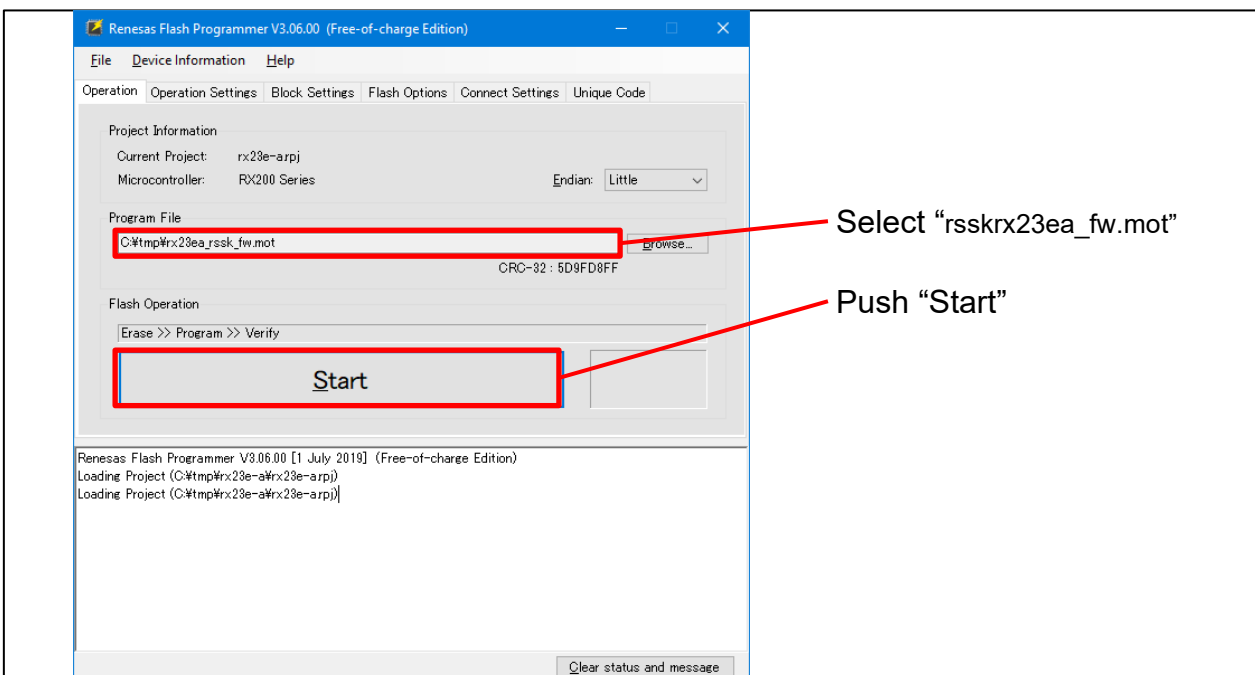

Figure 4-3 RFP Writing Operation
4. Select “rskrx23ea_fw.mot” file, then click “Start” after reset RSSKRX23E-A board.in reference to Figure 4-3.